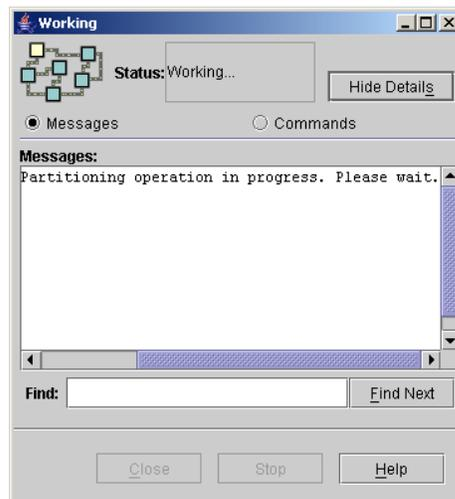

Figure 5-11 Dynamic LPAR operation in progress
3. Click **OK** when done. A status window (Figure 5-11) is displayed.